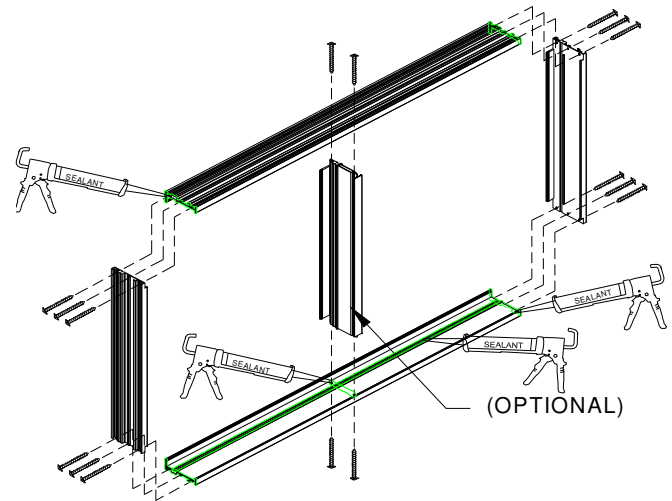

Figure 7: Assemble Frames and Sealant
2. Apply a compatible sealant to the corners of the frame. Assemble the frame with screws provided (Fig. 7).
(Fig. 7).